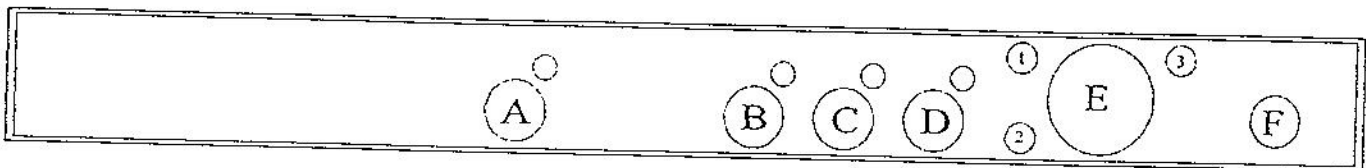

Figure 3
With reference to fig.3, to switch the machine on turn clockwise the general switch (E) to position 3 shown by the lighting of the light (B).
In both the situations the drain pumps start working automatically. But if you need to drain the washing tank at the end of the working day, turn the main switch (E) of the figure 3 in the position (2). Before you have to open the door and to remove the overflow pipe. During this phase you can keep the door open. At the end do not forget to turn the main switch (E) in the position (1) after emptying the washing tank, because a long-lasting work of the drain pump without water can damage the pump itself.